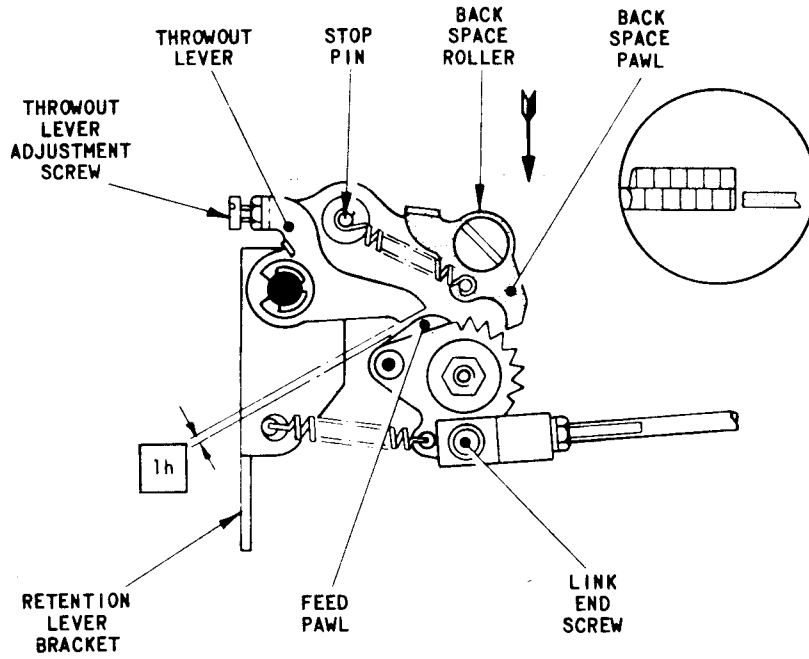

FIG. L.12 TAPE FEED MECHANISM
- 9.3 Check that the throwout lever, Fig.L.12, is clear of the feed pawl by approximately  $\cdot 060$  in.
9.7 With the machine in the rest position, check that the capstan-headed screw securing the Feed link end is directly behind the feed spindle centre line, as shown in Fig.13. This ensures that the feed pawl, Fig.L.12, is operating in the correct tooth.
- 11.1 Press lightly on the back space roller, Fig.L.12, to bring the back space pawl into contact with its ratchet. Check that the tip of the pawl lies in the middle of the ratchet tooth, as shown in the inset.
- 11.4 If necessary, slacken the nut securing the stop pin, Fig.L.12, and adjust the pin in its slot until the condition is satisfied. Tighten the nut.
- 11.7 With the machine in the rest position, slacken the locknut securing the throwout lever adjustment screw, Fig.L.12, and turn the screw clockwise until there is a clearance of .005 – .015 in. (dimension 'lh') between the throwout lever and the feed pawl. Tighten the nut.